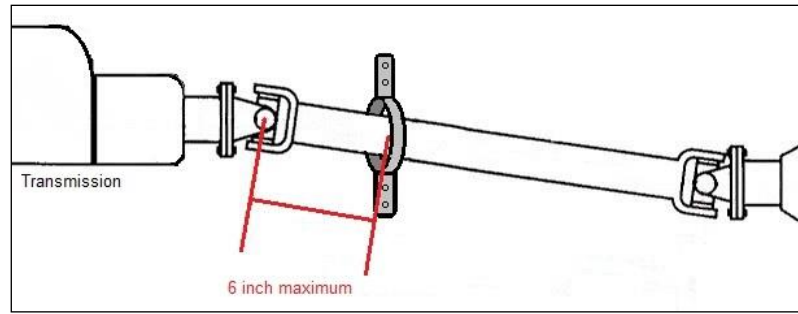

Figure 9
- A. All vehicles must have a driveshaft retaining loop mounted within 6 inches of the forward most universal joint and be securely attached to a unibody or frame structure as in Figure 9.